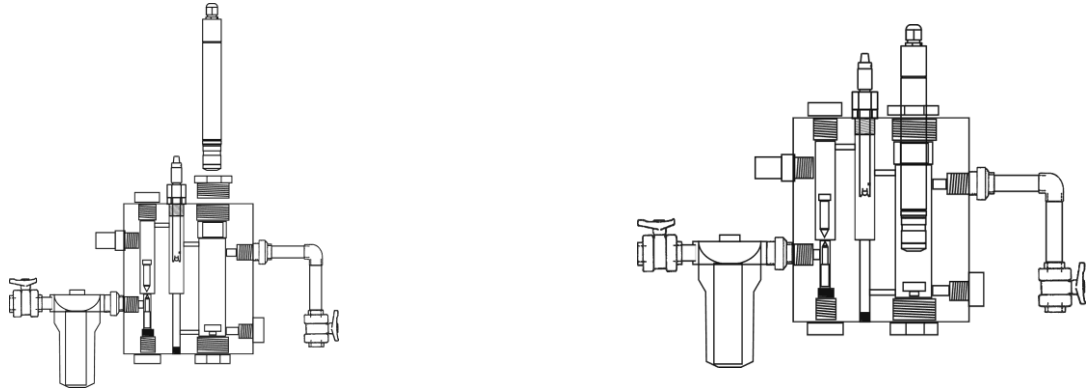

Fig. 13 EXT-2 (fig. 3.2)
1. Insert the CHLORINE sensor supplied into their corresponding places of the holder. (Fig. 13).